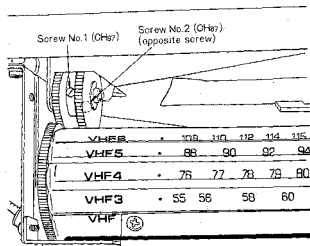

Fig. 26
1. Loosen the two (2) gear screws (nos. 1 & 2), as shown in fig. 26.
4. Tighten the two (2) gear screws (nos. 1 & 2), as shown in fig. 26.